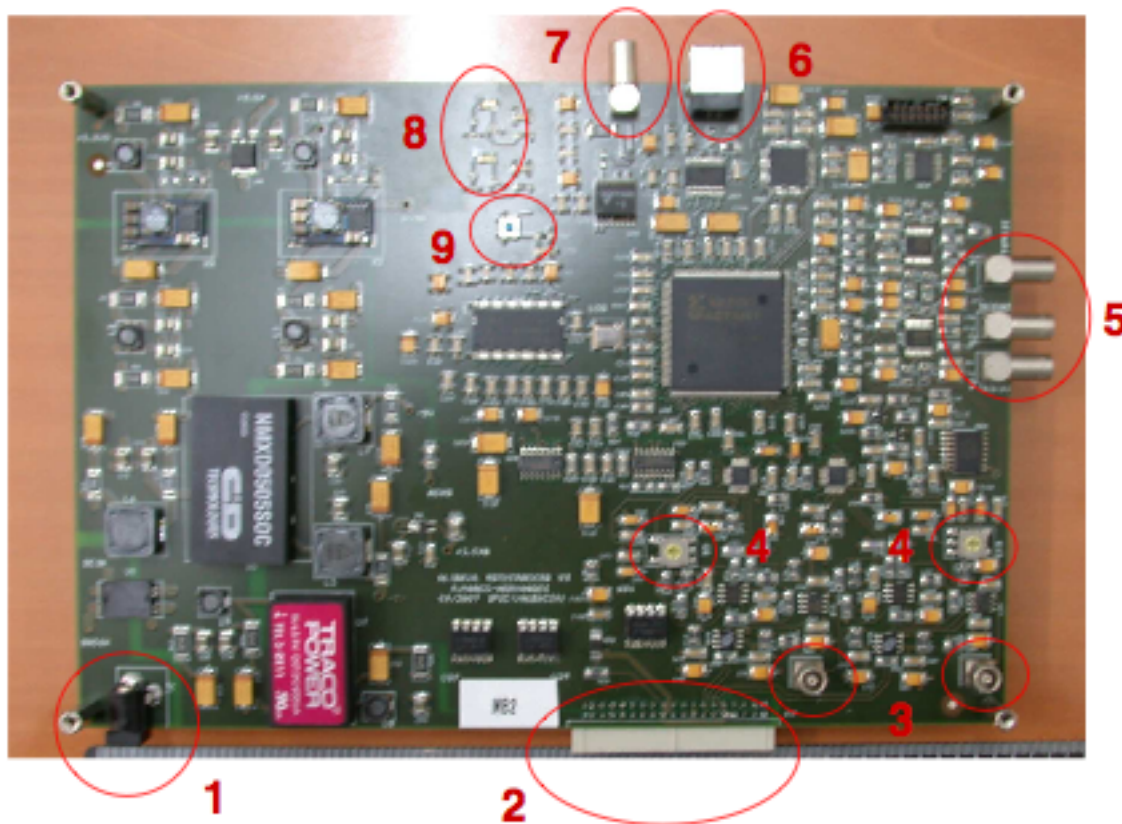

Figure B-2. Connectors, switches and LEDs of the ALIBAVA motherboard.
1. Connect the daughter board to the mother board (item 2 of Figure B-2) by means of the flat cable (the IDC connectors have a defined position both in the daughter board and the mother board).
2. Power on the system by means of connecting the AC/DC adapter to the motherboard power connector (item 1 of Figure B-2). The red and the green LEDs of the motherboard (item 8 of Figure B-2) are switched on.
3. Connect the USB cable to a USB port on the computer where the software is installed and to the USB connector of the motherboard (item 6 of Figure B-2).
4. Push the reset button (item 9 of Figure B-2) of the motherboard to initialize the system.
5. Launch the software following the software documentation. Now the hardware has been synchronized with the software and the red LED of the motherboard will be switched off (item 8 of Figure B-2).
In order to take laser acquisitions the motherboard has a trigger output which uses the LEMO connector next to the USB connector (item 7 of Figure B-2) for exciting a pulse generator which will drive the laser. The name of this output (TRIG OUT) is printed on the motherboard next to the corresponding connector.
For this setup the motherboard has three trigger inputs which use three LEMO connectors (item 5 of Figure B-2). The name of each trigger input is printed on the motherboard next to the corresponding connector.
There are two analogue outputs at the motherboard in order to probe the analogue output signal of each Beetle chip before they are digitized. These output signals use the two vertical LEMO connectors of the motherboard (item 3 of the Figure B-2). These outputs must be connected to the  $50\Omega$  input of an oscilloscope. A  $50\Omega$  coaxial cable must be used for these connections.
There are two rotary switches of three positions on the motherboard (item 4 of Figure B-2) to modify the ADC input range for each Beetle chip. The position 2 corresponds to an input range of  $\pm 512mV$  (with a resolution of 1 mV). The position 3 corresponds to an input range of 1024mV (with a resolution of 1 mV) only for positive signals. The position 1 corresponds to a input range of -1024mV (with a resolution of 1 mV) only for negative signals.